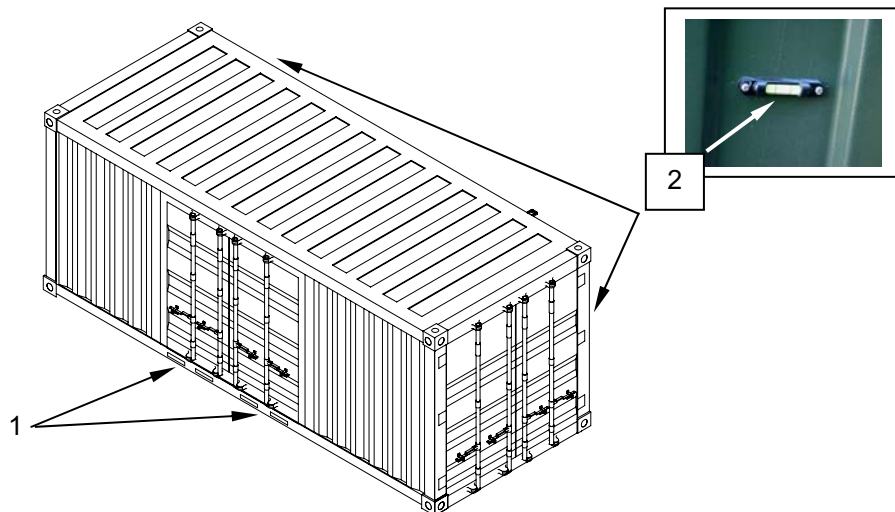

Figure 1. Lift and Move the CBL.
1. Use built-in forklift pockets (**Figure 1, Item 1**) to move and lift CBL.
3. Inspect the levels (**Figure 1, Item 2**) affixed to the container exterior. Adjust the level of the CBL by shimming tightly with wood scraps, stones, or bricks tapped into place with mallet.